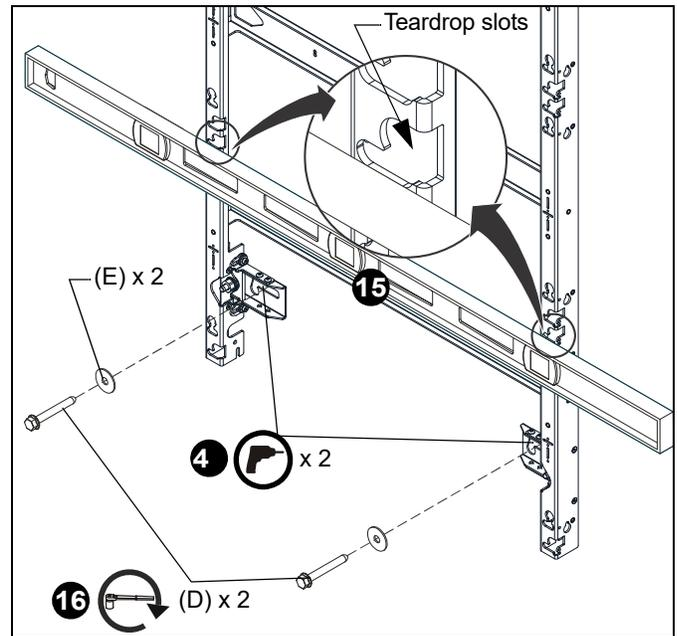

Figure 10
14. Drill pilot holes in centerline of lower slots (see Table 1 for size) and follow fastener information (appropriate for wall type) located in Table 1. (See Figure 10)
15. Double check the level of the mount at the bottom of the teardrop slots. (See Figure 10)
16. Fully tighten the 5/16 x 2-1/2" lag screws (D) through the 5/16" fender washers (E). (See Figure 10)